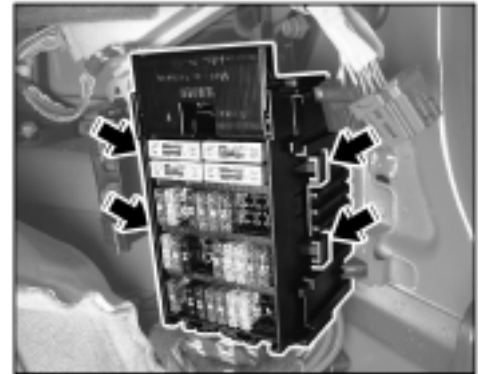

Figure 37
- 5.8.1 Release the fuse box ⇒ *Figure 37* -**arrows**- and pull it forward ⇒ *Figure 37* -**arrow a**- to remove it.